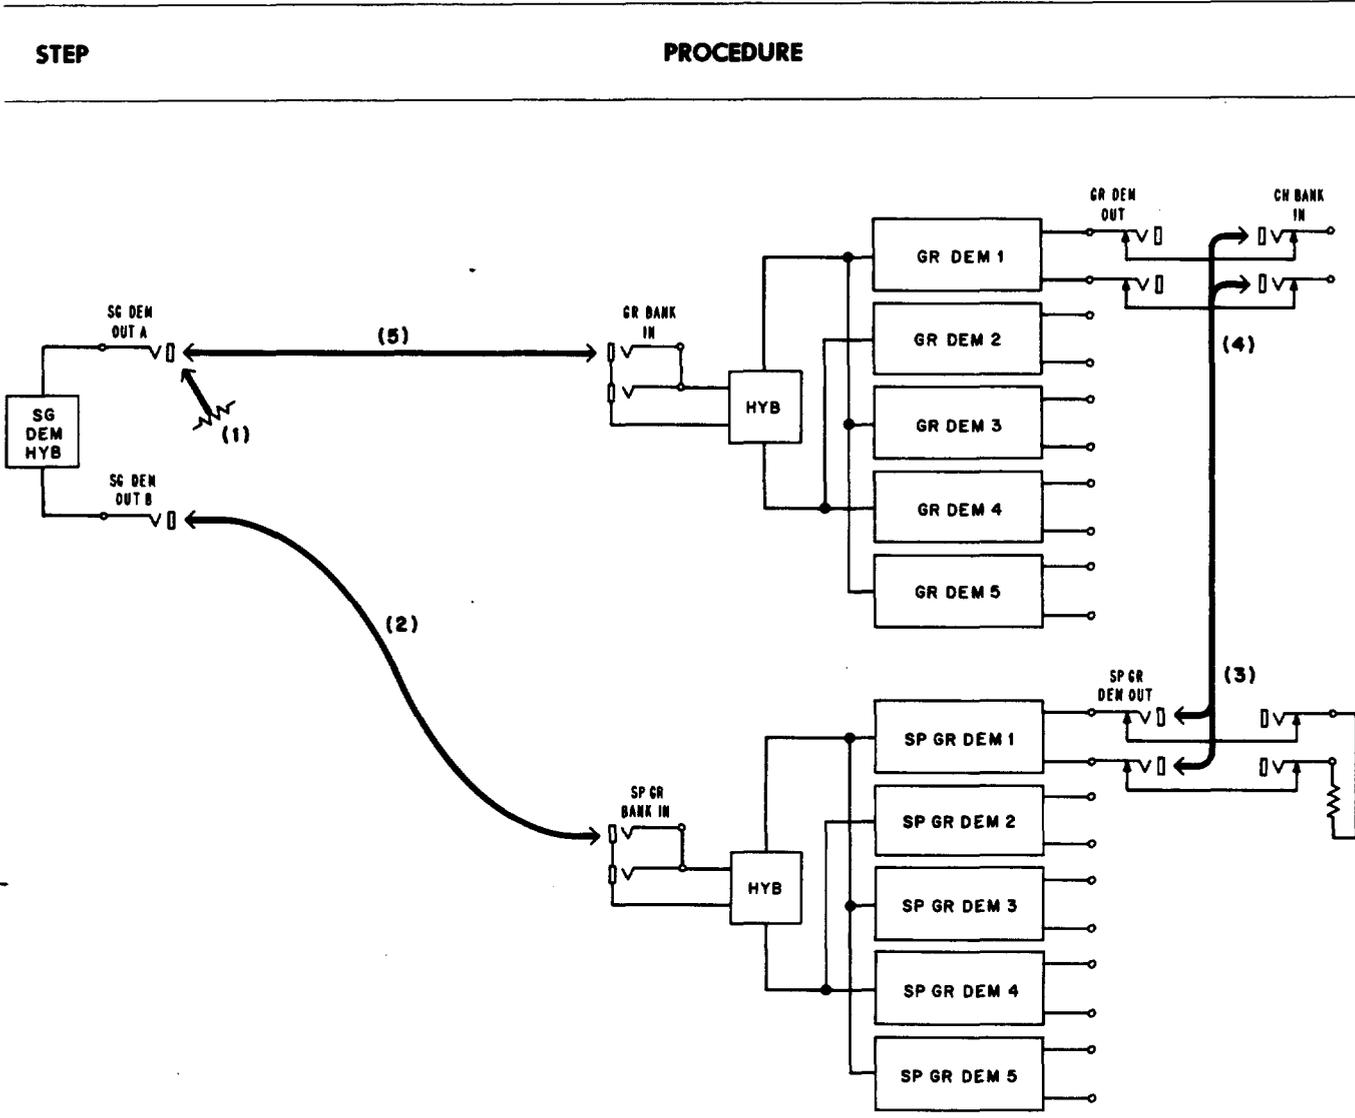

Fig. 3—◆Patching Receiving Group Banks◆
1	Make patch (2) in Fig. 3 from the SG DEM OUT B jack to the SP GR BANK IN jack.
9	Make patch (1) in Fig. 3 to terminate the SG DEM OUT A jack.